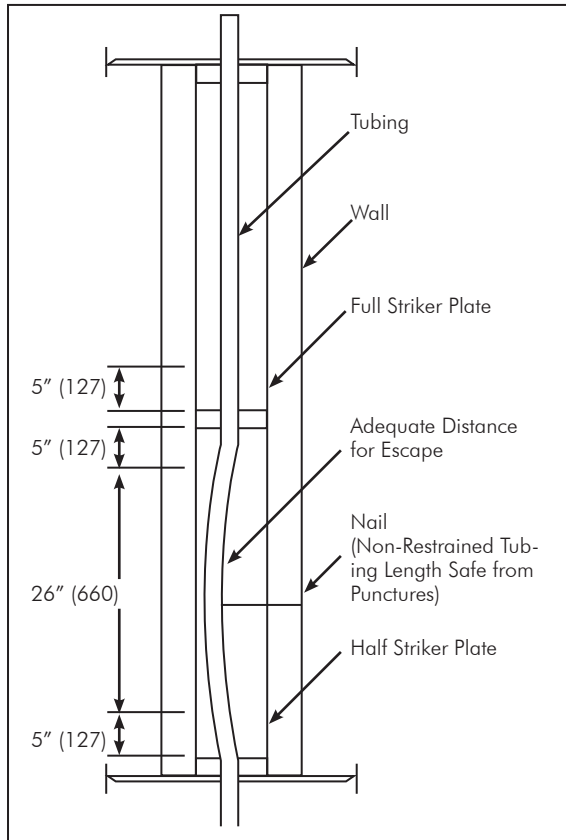
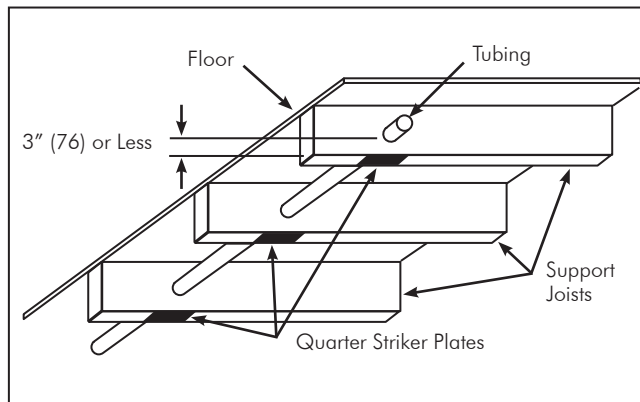

FIG. 4-13 Long Unsupported Tubing Runs, over 3 ft. (9.84m), Within an Interior Wall Partition
FIG. 4-15 Shielding Required for Tubing Running Through Joists Within 3" of a Potential Nailing Surface
1. Install shielding devices, ie. Striker plates to protect the tubing from penetration by drill bits, nails, screws, etc. (See **FIG 4-13**) in those areas where the tubing will be concealed and will not be free to move and avoid such puncture threats.
- a. At support points and points of penetration less than 2" (51) away from any edge of a stud, joist, plate, etc. shielding is required at the area of support and within 5" (127) of each side (if appropriate). Use a half striker or a full striker plate in these locations.
- b. At support points and points of penetration 2" (51) to 3" (76) from any edge of a stud, joist, plate, etc. Shielding is required throughout area of support. Use a quarter striker plate in these locations (See **FIG 4-15**).